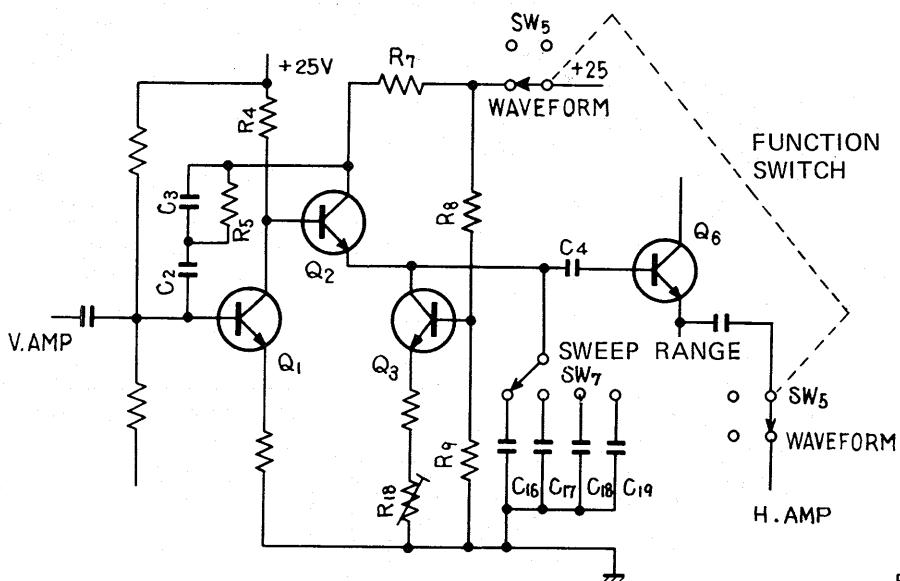

Fig. 9
6.6 SWEEP TIME GENERATOR(Fig. 9)
When the FUNCTION switch is set at position WAVEFORM, this circuit is activated and supplies the required horizontal saw-tooth wave. See fig. 9. The FUNCTION switch controls the power supply (+B, +25V) to Q2 through pin 4 on the PCB. The basic bias for Q1 is set at a value approximating class B operation because the collector current of Q1 drops when there is no input from the V amplifier to the base of Q1.